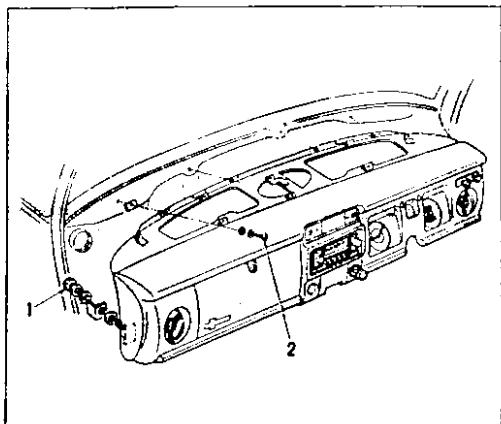

Fig. M.33 Removing the instrument panel.
4. Remove the shell covers from the steering column, slacken the screws securing the meter housing and withdraw the panel from the facia. (Fig.M.33.).